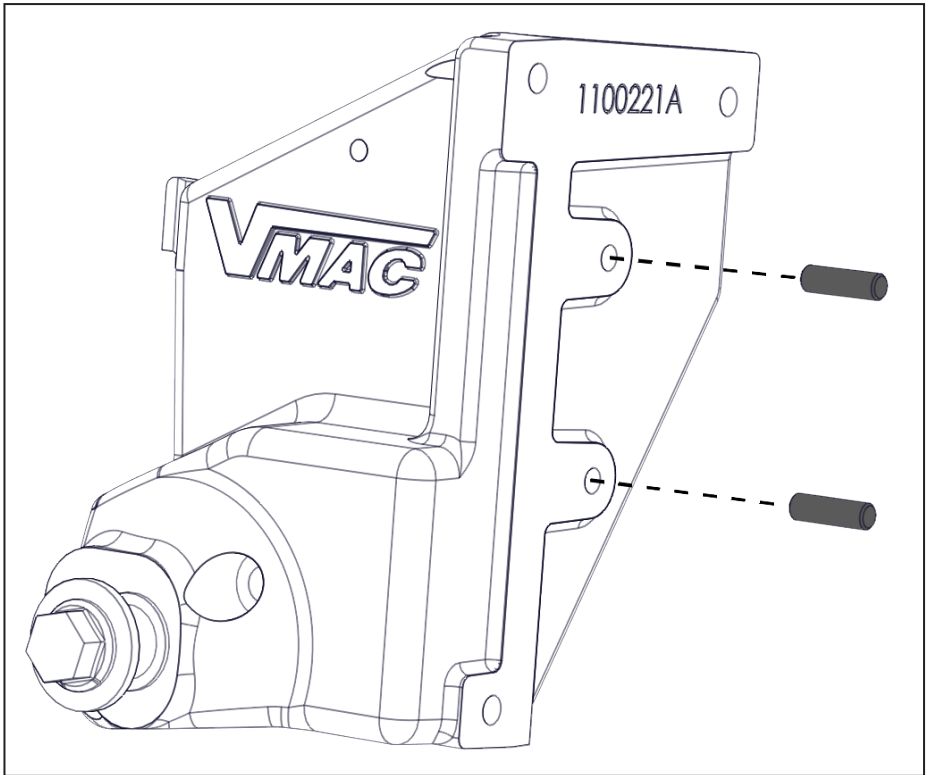

Figure 9 — Installing the dowels
- Install the 2 supplied dowels into the main bracket (Figure 9).